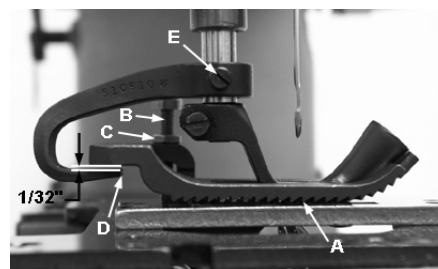

Fig 10A
Set the up upper feed dog so at it lowest position the teeth will just contact the lower feed dog teeth (A, Fig 10A). To make this adjustment, loosen nut (C) and turn screw (B) up or down as required. Lock nut (C) after adjustment has been made.
With the upper feed dog at its lowest position, set the lift lever so the there is approximately 1/32" clearance between the top of the lift lever and the bottom of the feed dog heel. (D, Fig 10A) To make this adjustment loosen screw (E) and move the lift lever up or down as required.